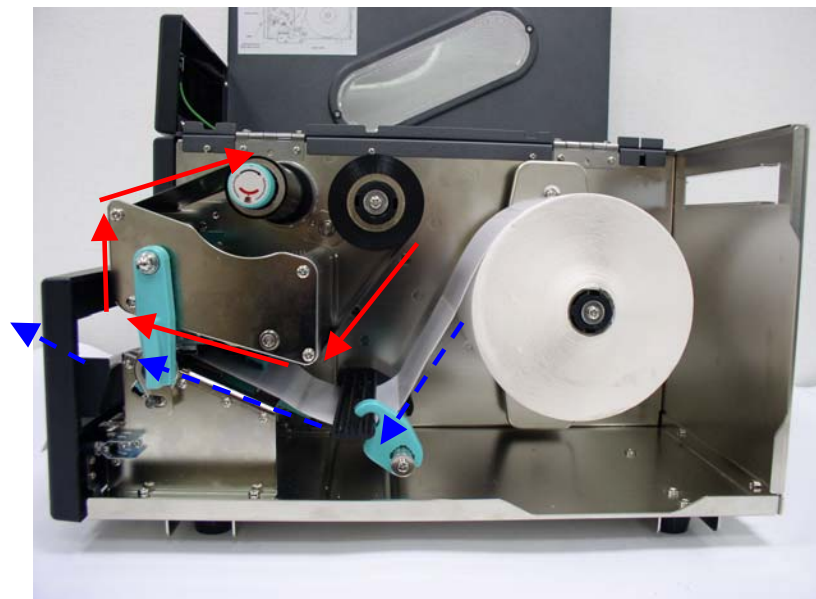

Figure 3. Loading path for printer media
- Place a ribbon on the **ribbon supply spindle** (refer to figure 3)
- Place the labels onto the label spindle (refer to figure 3).